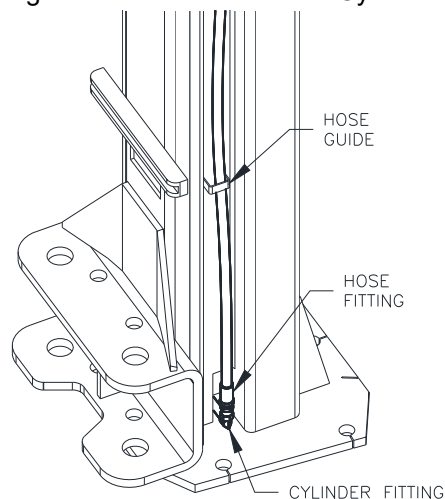

Fig 14 – Bottom Hose Connection
- 29) Attach Power Hose to Cylinder Fitting at the bottom of the Power Column as shown in **Fig 14** below. Repeat with longer Idler Hose and Idler Column. If lift is installed in the “Tall Height” setting, use Hose Extension and Hose Extension Fitting between Idler Hose and Cylinder Fitting.